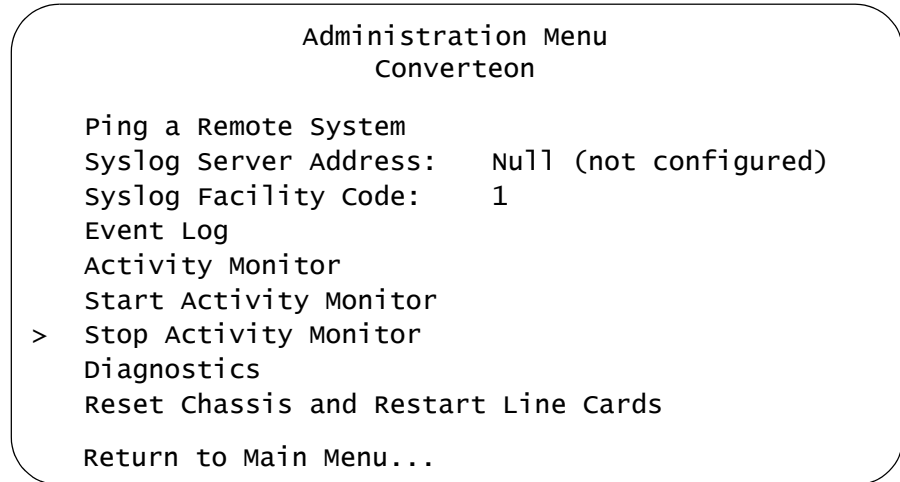

Figure 28. Administration Menu
1. From the Main Menu, select **Administration**. The Administration Menu is shown in Figure 28.
1. From the Main Menu, select **Administration**. The Administration Menu is shown in Figure 28 on page 98.
1. From the Main Menu, select **Administration** to display the Administration Menu shown in Figure 28 on page 98.